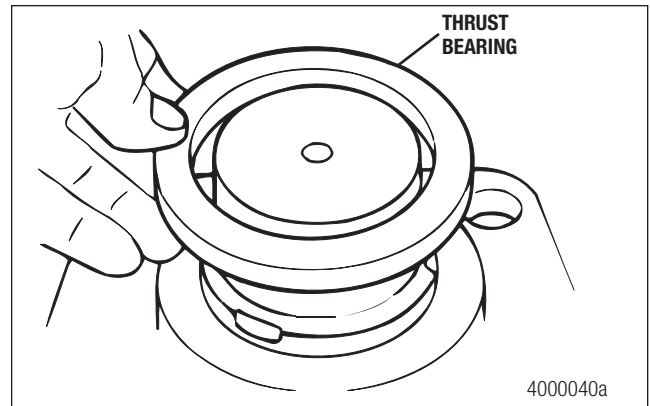

Figure 4.23
2. Remove the lower knuckle cap and inspect the thrust bearing for wear or damage. Replace a worn or damaged thrust bearing at reassembly. Figure 4.23.